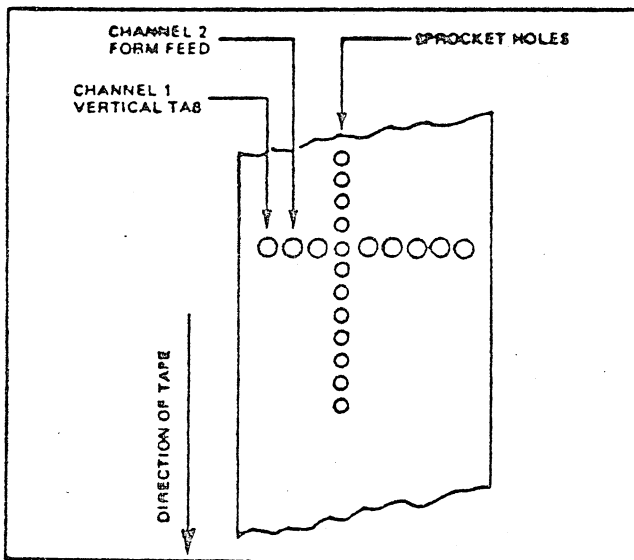

Figure 1.
Multiply the required form length in inches by the factor 6 to determine a number (N) of paper tape sprocket holes. A hole is required in channel 2 at the Nth sprocket hole. See Fig. 1. If Vertical Tab positions are desired, holes are required in channel 1 at intermediate sprocket holes. There is a one-to-one